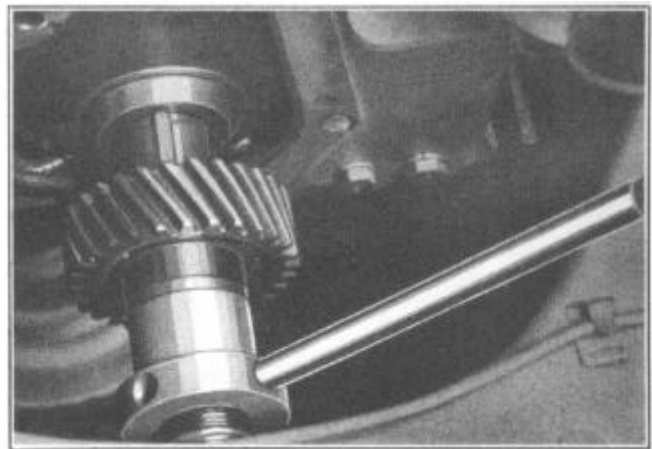

FIGURE 39
1. Install crankshaft gear using Pusher tool J-483, Figure 39.
1. Install crankshaft gear with Pusher Tool J-483, Figure 39.